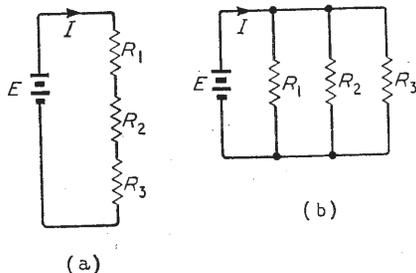

Fig. 1. Although "Ohm's law" is easy to apply to (a) it is slightly less convenient for (b), and its dual is to be preferred.
Above:—Fig. 1. Vectorial representation of the complete SEQUIN signal (for the chrominance system). Correct phase detection,  $(R-Y) \pm Y = R$ , etc.; incorrect phase detection,  $[R-Y \pm \Delta(K_1 - Y')] \pm Y = R \pm \Delta(K_1 - Y')$  etc.
which is also true and sometimes more useful, especially with parallel circuits. Equation (1) is quite suitable for attacking Fig. 1(a), because the total *R* is just the sum of all the resistances, so the particularized version of (1) is
But the first time we are confronted with Fig. 1(b) we have to think a bit and finally come up with
As well as dual quantities and dual equations there are such things as dual circuits. You might think that Fig. 1(b) was the dual of (a) because its equation is. But we can see that this is not exactly so if we describe (a) in words and then transform it by using the parallel lists: thus, (a) comprises three resistors all in series with a voltage source. So its dual must be three conductors all in parallel with a current source.
tages—either of the two opposite varieties just mentioned—presumably think it is a good idea, because it indicates both the voltage and its direction (unlike the absurd arrows pointing *both* ways that are still often used) so why not for currents too? Up to that point the line of thought is impeccable, but unfortunately it almost invariably goes astray from there on. The thinker says to himself that if  $V_{ab}$  means the voltage between  $a$  and  $b$  then  $I_{ab}$  should mean the current flowing from  $a$  to  $b$ . He would get away with this in circuits like Fig. 1(a), where the junctions between the resistors might be marked  $a, b, c$ , etc. But what about Fig. 1(b)? There are four currents flowing between the only two circuit junctions and they are probably all different. That will never do, so he finishes up by distinguishing them as  $I_{R1}, I_{R2}$ , etc., sacrificing the indication of direction in the process. All very arbitrary and unsatisfactory.
If only he had remembered the table of duals he would have realized that current is the dual of voltage, so if the voltage subscripts refer to circuit junctions the current subscripts should refer to circuit meshes. This is perfectly specific and unambiguous; the current flowing through, say  $R_1$  in Fig. 1(b), is not specified by the points between which it flows, for three other currents do the same, but it is uniquely specified by the meshes on each side of  $R_1$ . This is not even a revolutionary new idea; it was used for stresses in structures by Bow nearly 100 years ago.